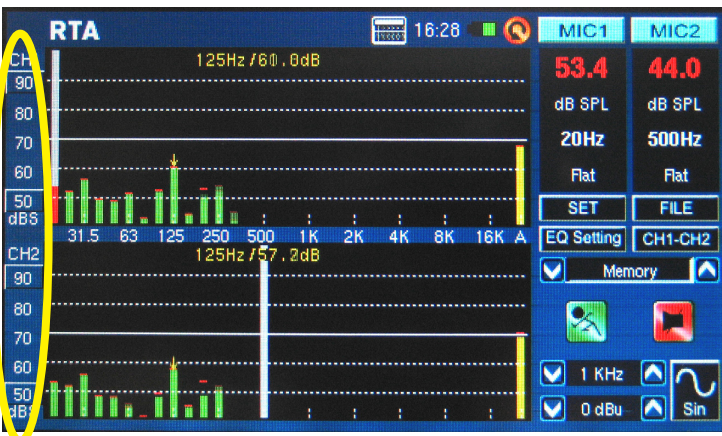

figure 25
8. A 60 dB range can be seen on the RTA screen at any one time. The total range viewable is 30 dB to 130 dB. If you find the RTA is clipping constantly, pushing the dBs values to the left of the RTA display (shown in figure 25) will allow users to scroll up their results (in 5 dB increments).